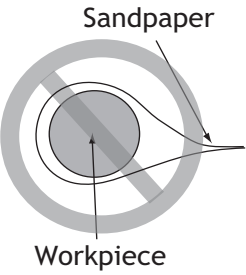

Figure 35. Example of mounting workpiece to a faceplate using a backing block.
5. Mount workpiece and backing block to faceplate, as described above. See example in **Figure 35**.